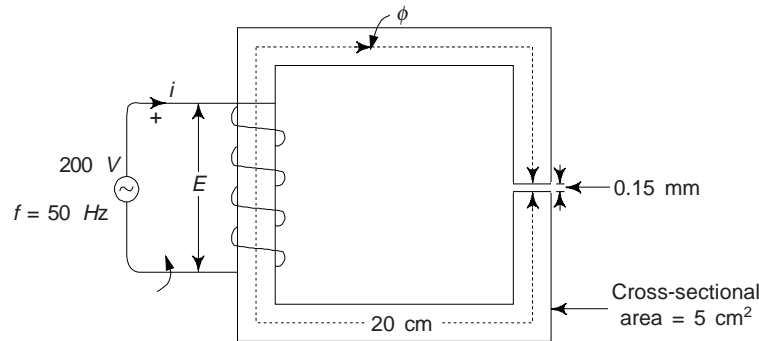

Fig. P2.14
- 2.14 The magnetic circuit of Fig. P2.14 has a magnetic core of relative permeability 1600 and is wound with a coil of 1500 turns excited with sinusoidal ac voltage, as shown. Calculate the maximum flux density of the core and the peak value of the exciting current. What is the peak value of the energy stored in the magnetic system and what percentage of it resides in the air-gap?